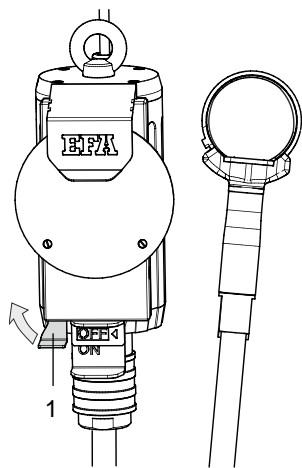
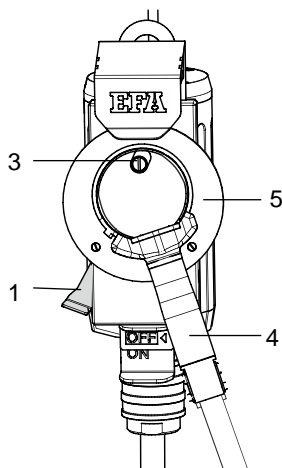
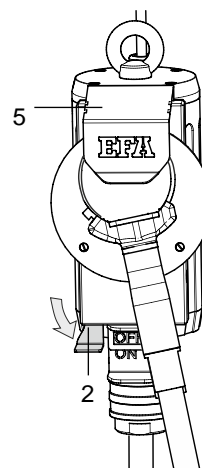

Fig. 6.5 – Securing the trimmer (1)
Fig. 6.6 – Securing the trimmer (2)
Fig. 6.7 – Securing the trimmer (3)
- 2) Push the locking lever (1) to the left and then upwards until the holding bar (3) is laid bare, see Fig. 6.5 and Fig. 6.6.
- 3) Hold the locking lever (1) in this position, see Fig. 6.6.
- 4) Hook the EFA trimmer (4) onto the holding bar (3). The blade side of the EFA trimmer must be placed on the plate (5).
- 5) Release the locking lever (2).
The cover plate (5) and locking lever fall back into the base position, see Fig. 6.7.